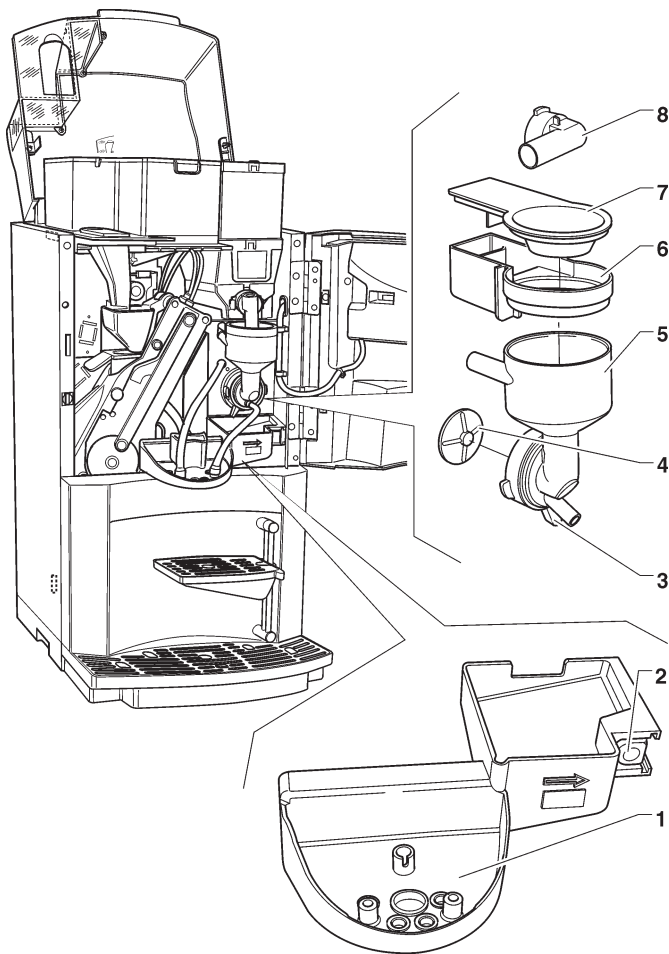

Fig. 9
- remove the powder and the water funnels, the feeders, the powder deposit drawers and the mixer impellers from the mixers (see Fig. 9);
Every time coffee is refilled, or at least once a week, any powder residue should be removed from the external parts of the coffee unit, particularly from the coffee funnel area (see Fig. 9), using a brush or a small vacuum cleaner. Do not use water soggy wet cloths for cleaning the shelves, wring them out well before use.